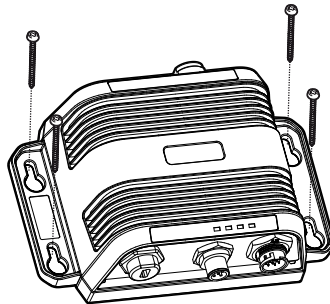

Figure 6 AIS transceiver mounting
- The product is supplied with four selftapping screws for attachment of the AIS transceiver to a suitable surface. Please refer to Figure 6 for guidance.